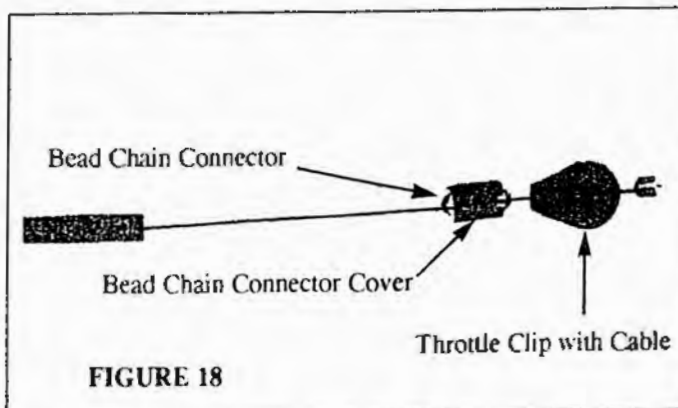

FIGURE 18
2. Slide a **Bead Chain Connector Cover** over the cruise cable, then attach the **Bead Chain Connector** to the cable. Attach the **Throttle Clip with Cable** to the **Bead Chain Connector** and slide the **Connector Cover** over the **Bead Chain Connector**. (Figure 18)